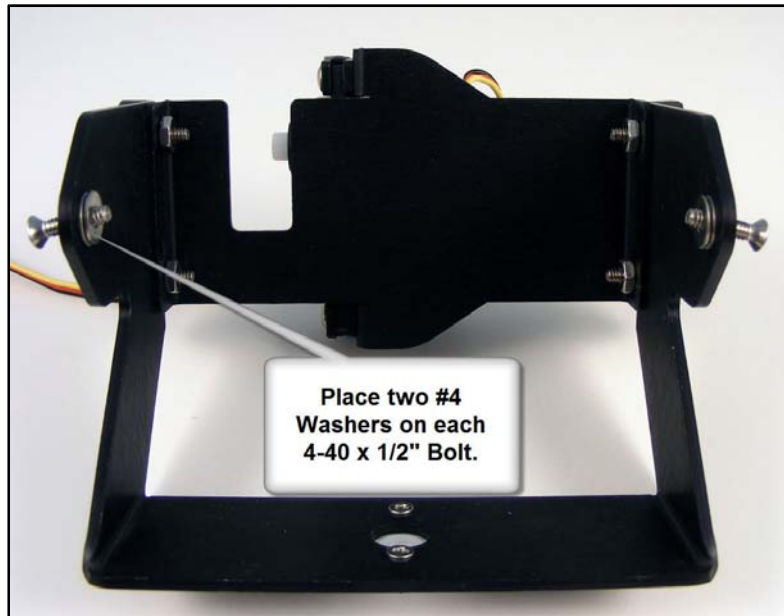

Figure 30
- 15.) Place two 4-40 x 1/2" Flat Head screws in the Pivot holes as shown in Figure 30 below, and then place two #4 washers on the ends (each side). The washers will serve as spacers and help reduce pivoting friction between the Sensor Shell and the Turret Pivot.